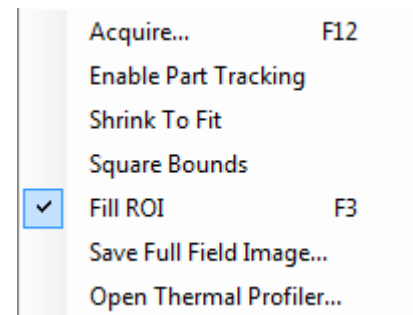

Figure 2.9 Camera Window Context Menu
4. Right-click on the Camera window to bring up a context menu (see **Figure 2.9**) that contains the Acquire... command. Click Acquire... or, alternatively, press the **F12** key.